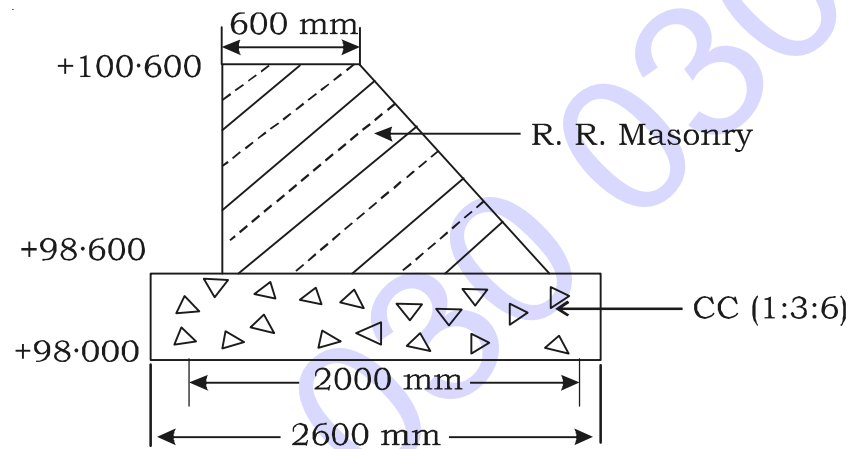

Fig. 3
8. Calculate the following quantities of abutment of a culvert shown in Fig. 3. Take the length of abutment as 5.0 m.